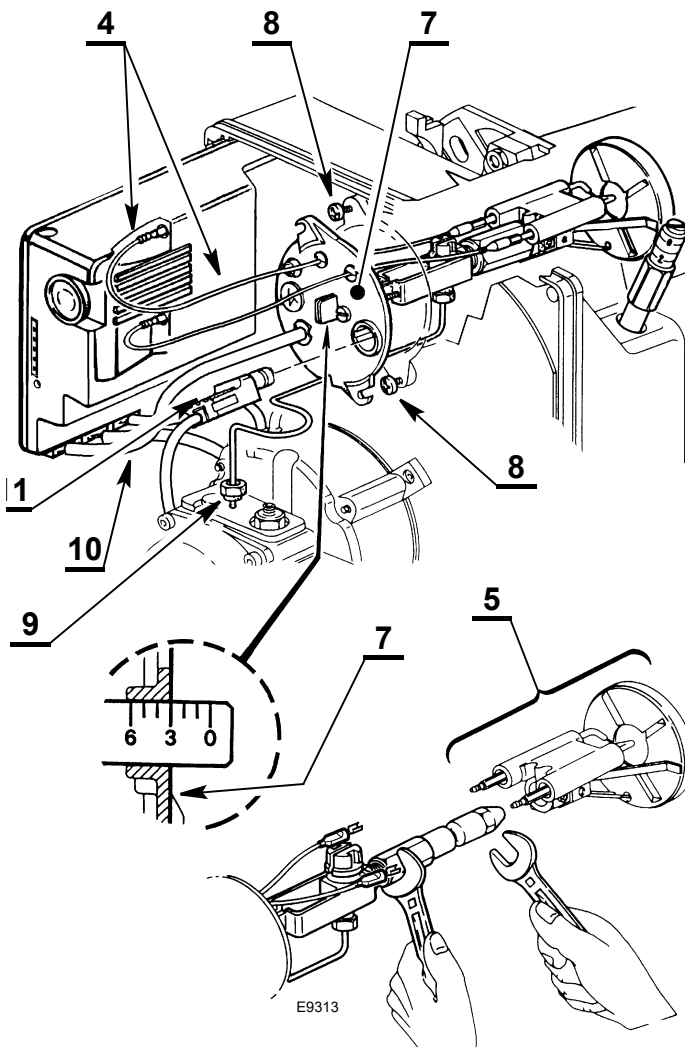

Fig. 22
#### Way 1 (Fig. 22):
- pull out the cables 4)(Fig. 22) from the control box, the flame sensor 11) and unscrew the nut 9) from the pump.
#### Way 2 (Fig. 22):